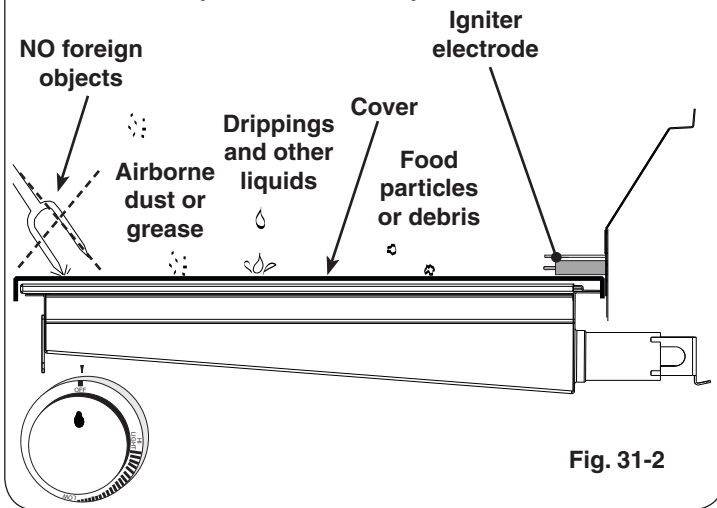

Fig. 31-2
- When not in use, **always** cover the infrared burner with the stainless-steel cover. This protects the burner from drippings (from other cooking), water, airborne particles, and foreign objects (Fig. 31-2).
- Do not strike or scrape the ceramic portion of the burner as it may chip, crack, or break (Fig. 31-2).